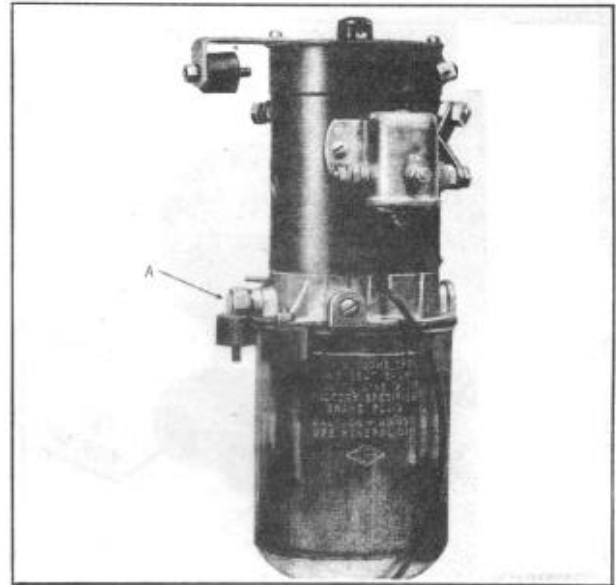

FIGURE 184
A piston type, spring loaded pressure relief and flow control valve controls the fluid pressure of the hydraulic pump, Figure 184. The valve (A) is adjusted to a minimum of 250 pounds and a maximum of 260 pounds per square inch, and under no circumstances should it be changed to provide a higher pressure. In conjunction with the tension spring on the valve, washers are also added under the head of the plug to allow for necessary adjustment or variation in pressure. The addition of washers reduces the pressure while the removal of washers increases the pressure. When cleaning and servicing this valve, USE THE SAME WASHERS THAT WERE REMOVED, AND ALWAYS BE SURE